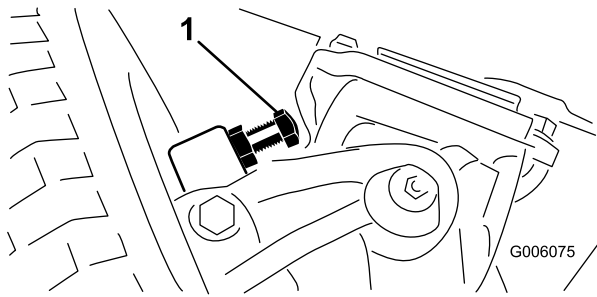

Figure 16
- Thread the bolts in or out until the .090 inch clearance is attained (Figure 16).